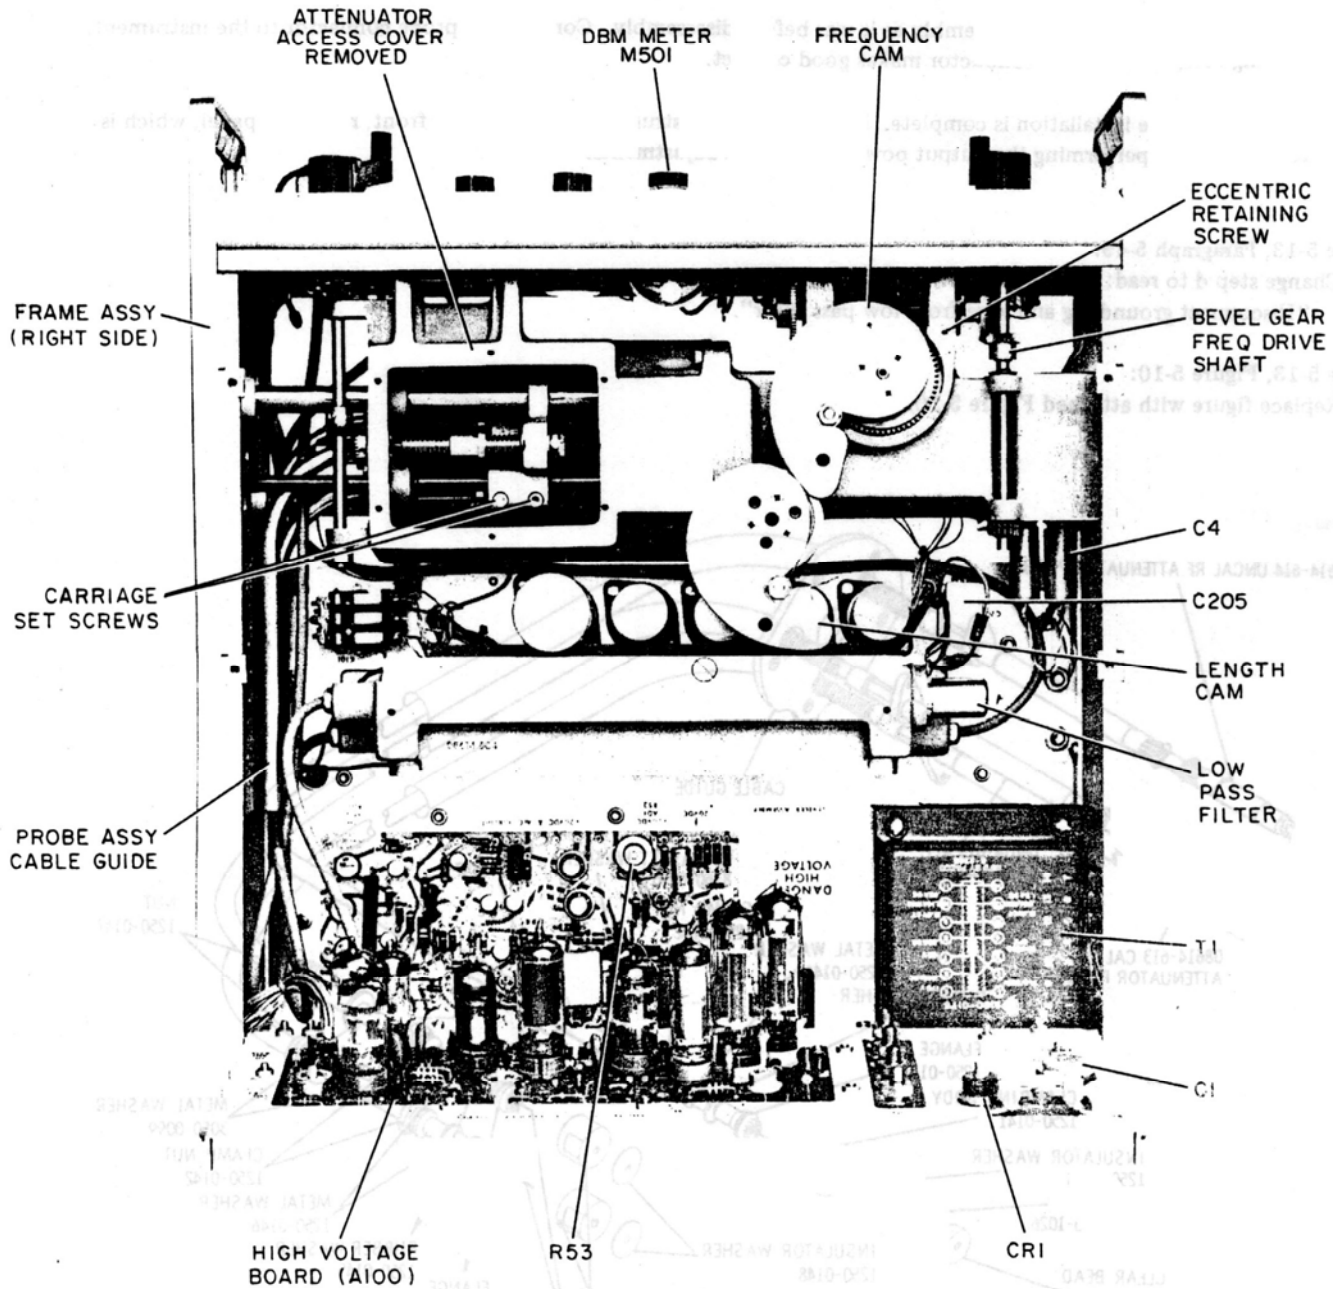

Figure 5-13. Instrument Top View, Cover Removed (P/O Errata)
- c. Remove Attenuator Access Cover from Klystron Cavity Casting (see Figure 5-13 P/O Errata).
Page 5-15, Figure 5-13:
Replace figure with attached Figure 5-13.
2. If it is not, loosen the two setscrews in the attenuator drive shaft bevel gear (see Figure 5-13 P/O Errata). With the bevel gear loose, turn the attenuator gear with your fingers until the output power is -11 dBm . Without disturbing the -11 dBm power setting, turn the attenuator knob on the front panel until the attenuator counter reads 012 dB. Tighten the two setscrews in the bevel gear.
2. If it does not, the RF UNCAL probe requires adjustment. The front right side panel should be removed, exposing the probe assembly cable guide. Remove the screw in the cable guide that is in line with the UNCAL probe retaining screw (see Figure 5-13 P/O Errata). Insert a long Allen wrench through the hole left by removing the cable guide screw into the UNCAL probe retaining screw. Turn the retaining screw to adjust the UNCAL probe penetration for $-3 \text{ dBm} \pm 0.3 \text{ dBm}$ output.
2. If it is not, the ALC attenuator probe requires adjustment. The front right side panel should be removed, exposing the probe assembly cable guide. Remove the screw in the cable guide that is in line with the ALC probe retaining screw (see Figure 5-13 P/O Errata). Insert a long Allen wrench through the hole left by removing the cable guide screw into the ALC probe retaining screw. Turn the retaining screw to adjust the ALC probe penetration for $120 \text{ mV} \pm 2 \text{ mV}$ at the ALC crystal output.